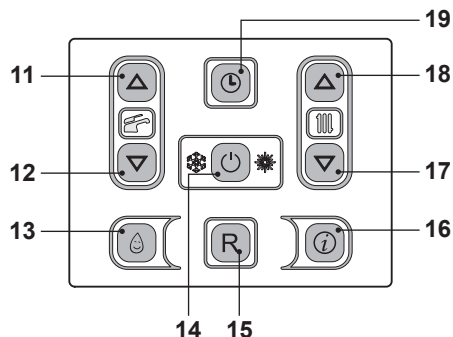
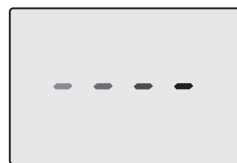

Fig. 2.33
Fig. 2.34
To activate the 3 star preheating function press key 13 (Fig. 2.33) until the following symbol appears on the LCD display  (Fig. 2.27). When the symbol  flashes, the function is in process.
To disable the 3 star preheating function press key 13 (Fig. 2.33) until the symbol does not disappear from the LCD display .
Press the key for 2 seconds 14 (Fig. 2.33) until the — — — — symbol appears on the display (Fig. 2.34).